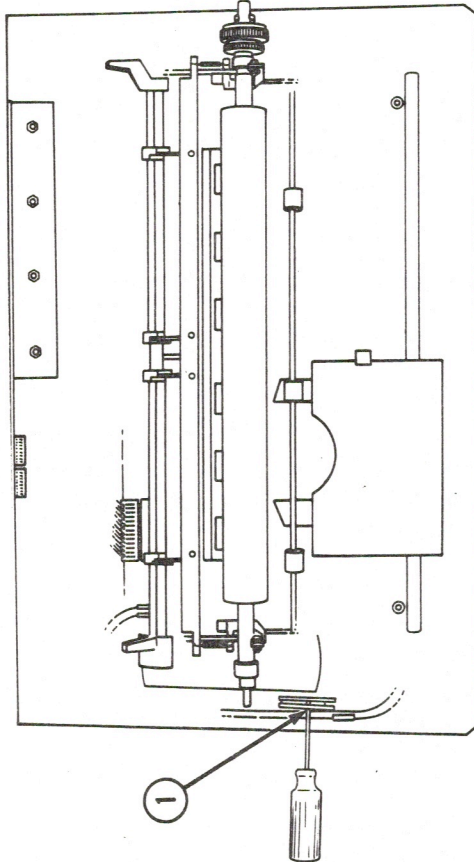

FIGURE 2
**NOTE -- Defeating the Top Cover Interlock Switch:** If you have removed the cover for servicing, the self-tests will not normally run, because of an interlock switch at the front left side of the printer. But you can avoid replacing the cover if you defeat the top cover interlock switch as follows: Find the switch housing on the left side of the printer (Figure 2, #1). Push down on the switch lever inside the housing with a screwdriver, and then insert a small Phillips screwdriver through the hole in the switch housing, to hold the lever down.